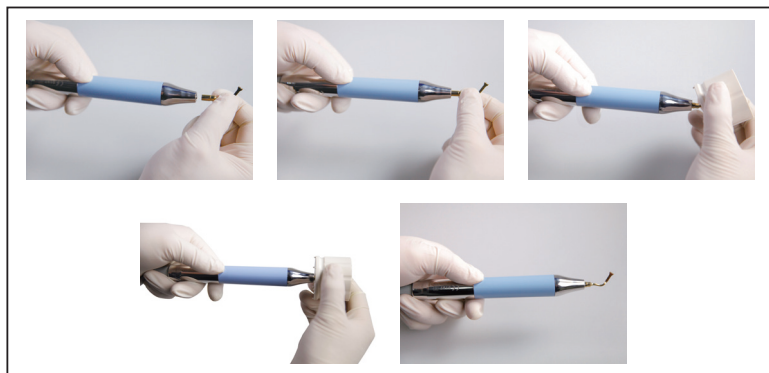

Fig.7
6.3.8 Use the torque wrench to screw the tip (Fig.7) till the clattering voice;
7.5.3 To use the torque wrench correctly (Fig.7) proceed as follow;
the plastic casting (Fig.7) and do not turn it while fastening the tip in place;